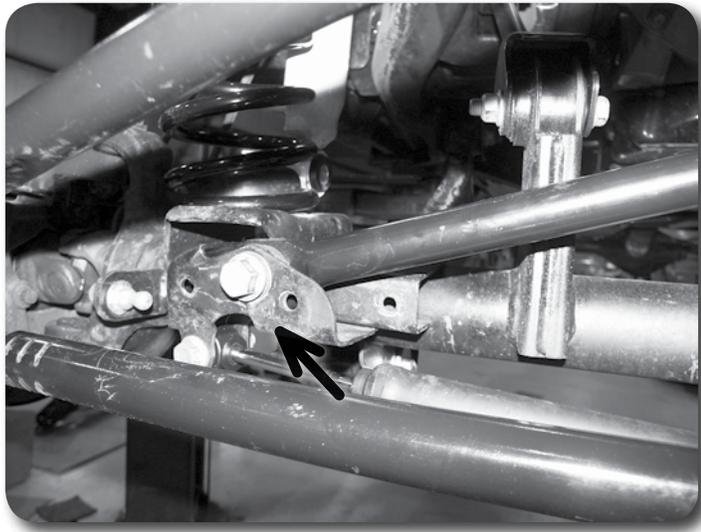

Figure 1
2. Disconnect the front track bar from the axle (passenger's side). Save mounting bolt. Figure 1